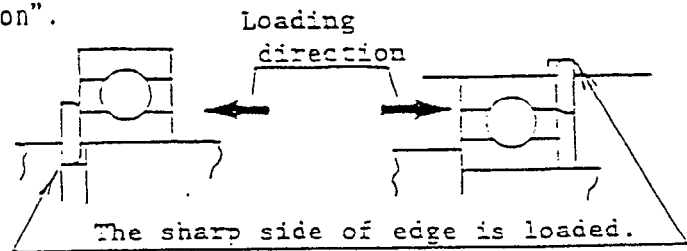

Fig. 8
-1) Assembly directions for retaining ring (Fig. 8)